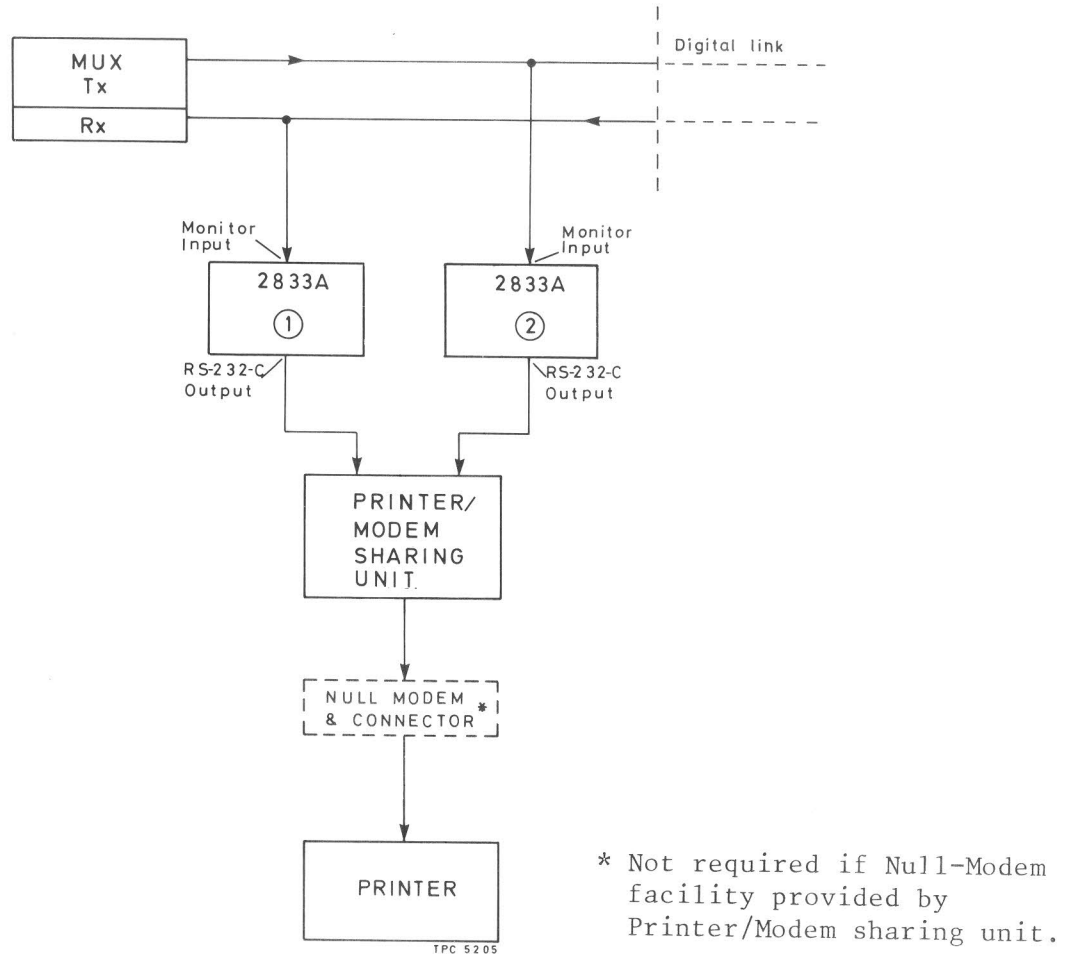

Fig. 11 Bi-directional monitoring using two 2833A's
26. It is often useful to monitor both transmit and receive paths of a digital link, for example, to compare events between send and return signalling paths of a particular channel. This can be achieved using two 2833A's connected to a single printer via a printer or modem connector, see Fig. 11.